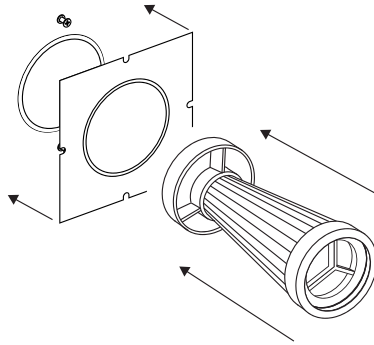

Figure 6.7. Installation of filter and sealing element
8. Glue the sealing element to the wall. Insert the filter into the ventilation duct (Figure 6.7). The edge of the filter should be recessed in the air channel by 20 mm.